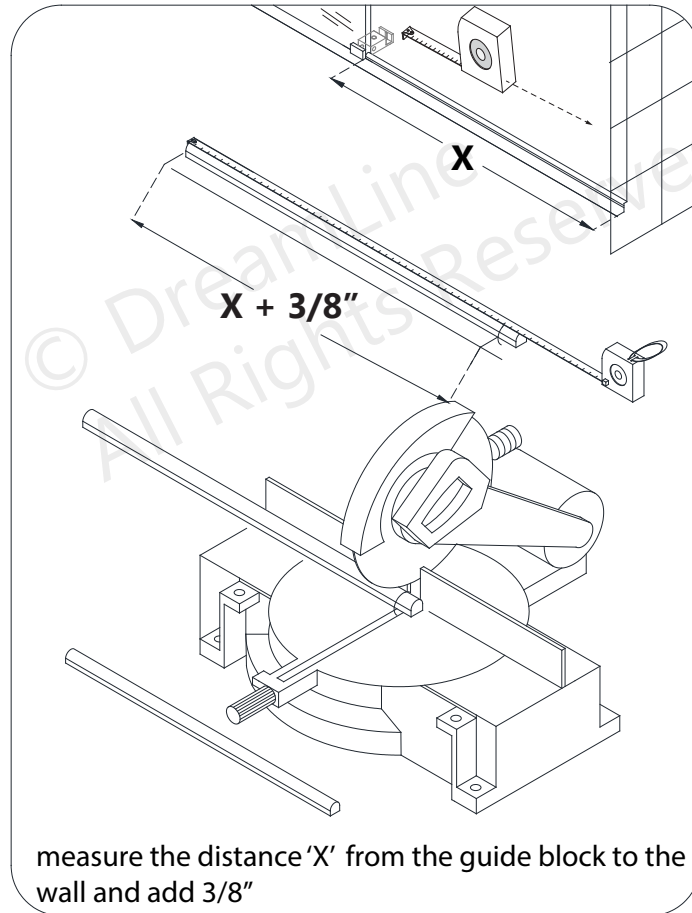

Fig 11
11. Measure the distance from the edge of the **Guide Block (#12)** to the wall. This distance will be "**X**". Cut the **Anti-Splash Guard (#15)** to the size of: **(X) + 3/8"**. (**Fig 11**)